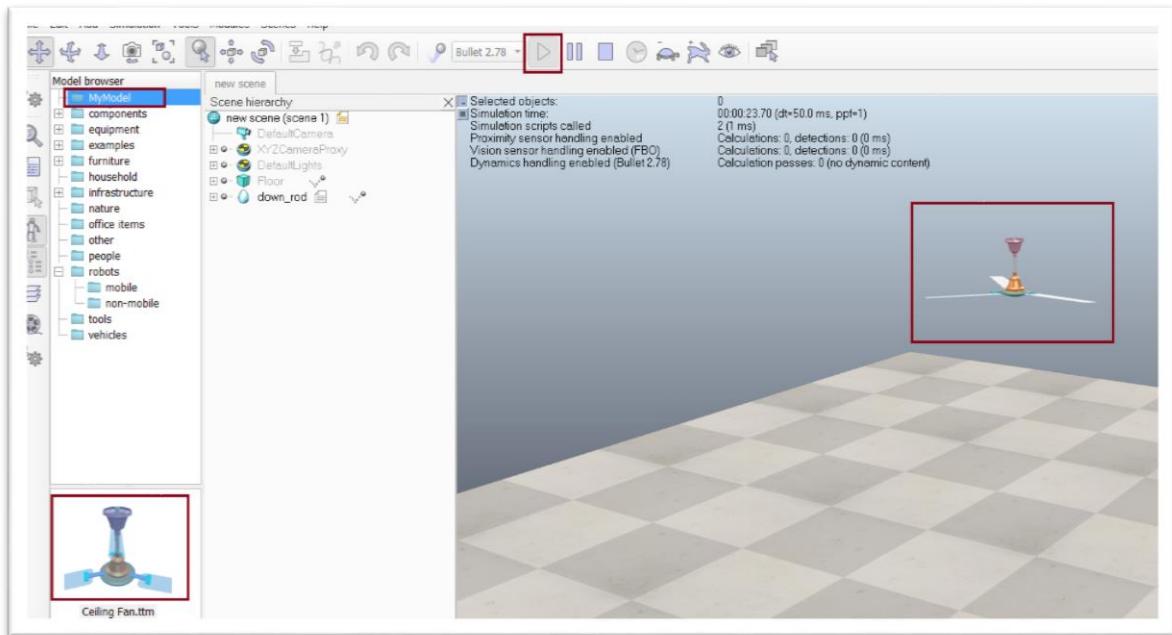

Fig. 5: the newly created model [source: Author's]
- (14) Change the object color as we prefer.
- (15) Now we convert it into the model. Select all available fan objects. Click the “**Scene object Properties**” button from the left side. Then click on the “**Common**” tab. Under the model definition, click “**object is model.**” Then click on “**Apply to selection.**” We will observe that the “**Save model as**” menu is now highlighted under the file menu.
- (16) Now we will export our model. In the folder path C:\Program Files\CoppeliaRobotics\CoppeliaSimEdu\models, create a folder like “MyModel.”
- (17) Keep selecting our model in the workspace. From the file menu>” **Save the model as**” and then click on “**CoppeliaSim model...**”. One message box will appear. Click on “OK”.
- (18) After pressing OK, another window will appear. Click **no**.
- (19) The appeared window is for the thumbnail. We can select from any file. By default, it shows as in the Workspace image. The zoom button can zoom the image. **V-Shift** for up/down and **H-Shift** for left/right for proper alignment. After adjustment, click ok.
- (20) Now enter a file name and select path C:\Program Files\CoppeliaRobotics\CoppeliaSimEdu\models\MyModel. Click the “**Save**” button.
- (21) Now close and open again the Coppeliasim IDE. Under the My Model menu, our model is available. Drag it into the workspace and use it. As depicted in Figure 5.